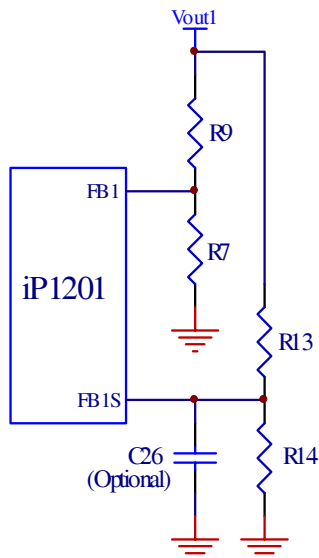

Fig. 19: Typical scheme for output voltage setting
Both outputs of the iP1201 will shut down if either one of the outputs experiences a voltage in the range of 115% of V_{OUT} . The overvoltage sense pins FB1s and FB2s are connected to the output through voltage dividers, R_{13} and R_{14} (Fig. 19), and the trip setpoints are programmed according to equation (1). Separate overvoltage sense pins FB1s and FB2s are provided to protect the power supply output if for some reason the main feedback loop is lost (for instance, loss of feedback resistors). If this redundancy is not required and if Type II control loop compensation scheme is utilized, FB1s and FB2s pins can be connected to FB1 and FB2 pins respectively. An optional 100pF capacitor (C26) is used for delay and filtering purposes. In parallel configuration, FB2s should be connected to FB1s
When selecting output capacitors, it is important to consider the overshoot performance of the power supply. If the amount of capacitance is not adequate, then, when unloading the output, the magnitude of the overshoot due to stored inductor energy, and depending on the speed of the response of the control loop, can exceed the overvoltage trip threshold of the iP1201 and can cause undesirable shutdown of the output. The magnitude of the overshoot should be kept below $1.125V_{OUT}$. To prevent the overshoot from tripping the output a delay can be added by installing capacitor C26 as shown in Fig.19.
From Fig.19 the transfer function $H(s)$ of the error amplifier is given by (9):